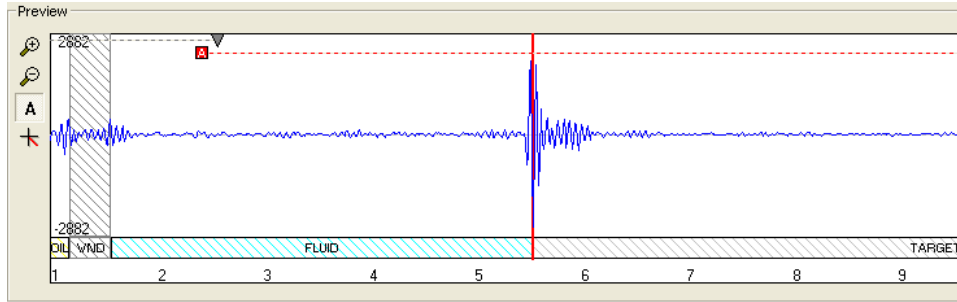

Figure 3-11 Start gate set in automatic mode
- **Automatic:** the system will automatically detect and record the highest amplitude occurring after the Acoustic Window Gate and the upper limit of the Echo Gate (Figure 3-11). Automatic is the recommended setting.